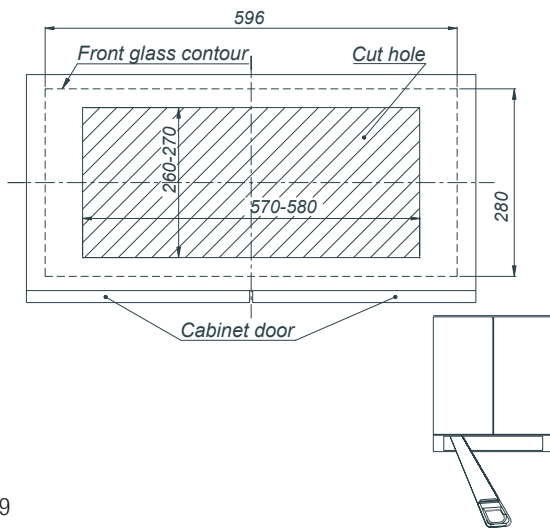

Fig. 9
The minimum distance of hood hanging between the surface of kitchenware placement over the cooking range (gas, electric range), and lowest part of the hood (Fig.9) shall amount at least 45 cm for electric cooking ranges and at least 65 cm for gas cooking ranges. Should the cooking range operation manual provide the higher distance for hood installation, such higher distance requirement shall be maintained. The hood assembly is on the drawings. During assembly, the generally applicable regulations on air extraction from the rooms must be observed.
1. Prepare the cabinet for the installation of the hood, cut the hole in the bottom of the cabinet in accordance with the drawing (Fig.9)